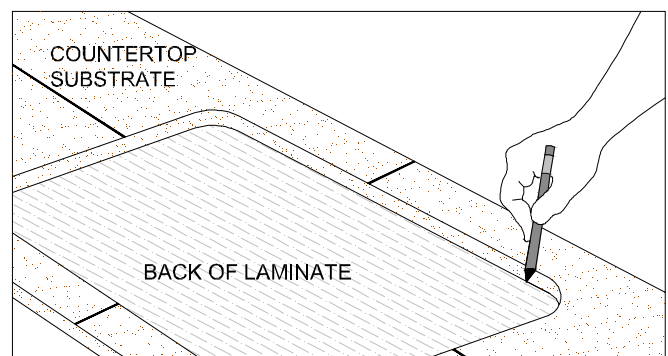

Figure 19D
- With a pencil, trace the inside perimeter of cutout onto the back side of the laminate to be bonded. (FIG. 19D)